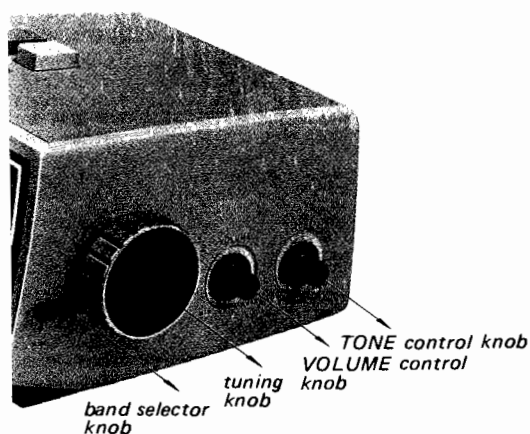

Fig. 2-2
2. Pull out the four knobs (tuning, VOLUME control, TONE control, and band selector) shown in Fig. 2-2.